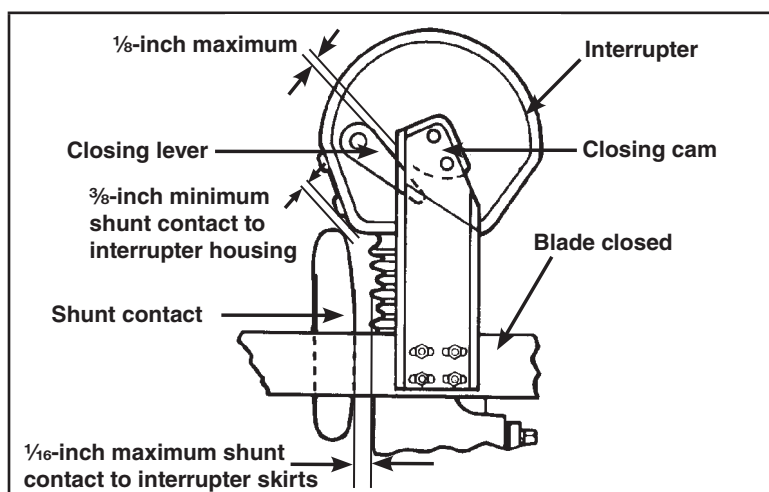

Figure 26. Blade assembly in the fully Closed position.
- (b) In the fully **Closed** position, clearance between the blade-closing cam and the interrupter-closing lever must be within the limit shown in Figure 26. Also, the clearances between the blade-shunt contact and the interrupter—measured to the interrupter housing as well as to the interrupter skirts—must be as shown in Figure 26.